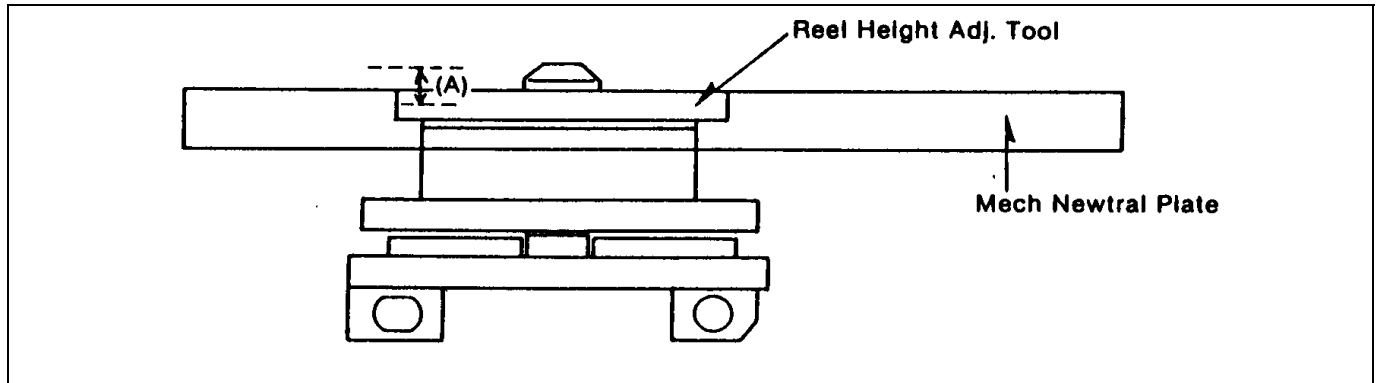

Figure 7-27-2 Reel Table Height Adjustment
4. Set reel height adjustment tool (VFK0772) on reel table as shown in figure 7-27-2.
5. Confirm that the (A) position is flat as shown in figure 7-27-2.